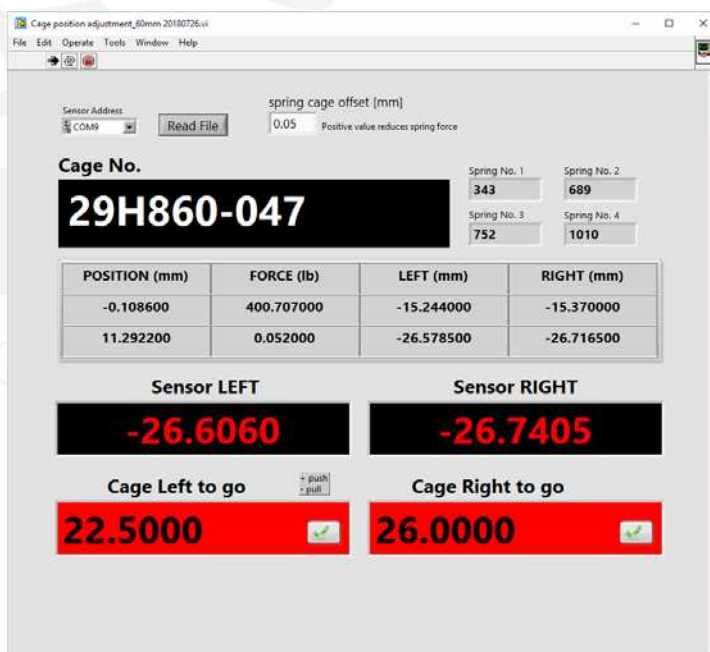

Figure 88: Keyence sensors attached (left) and LabVIEW Cage position adjustment.vi screenshot (right).
191. Mount spring cage adjustment tooling to the girder. (See Figure 88)
a. Software will subtract Keyence reading & target value so that you will aim for a “zero” reading. (See Figure 88).